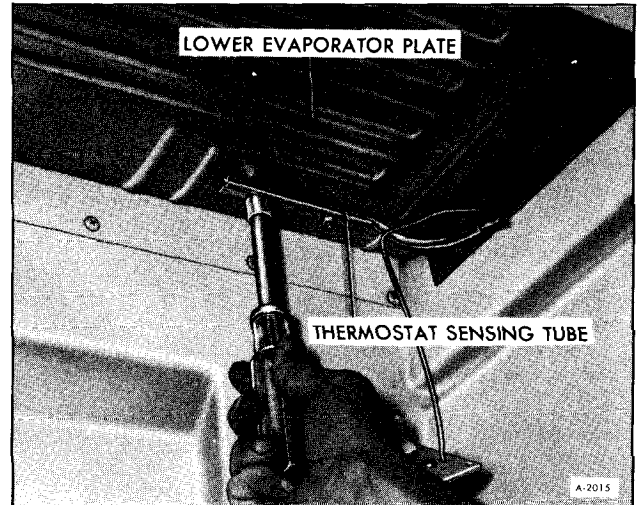

Figure 12-Removing Thermostat Sensing Tube
3. Remove thermostat sensing element from lower evaporator plate by removing two screws (figure 12).